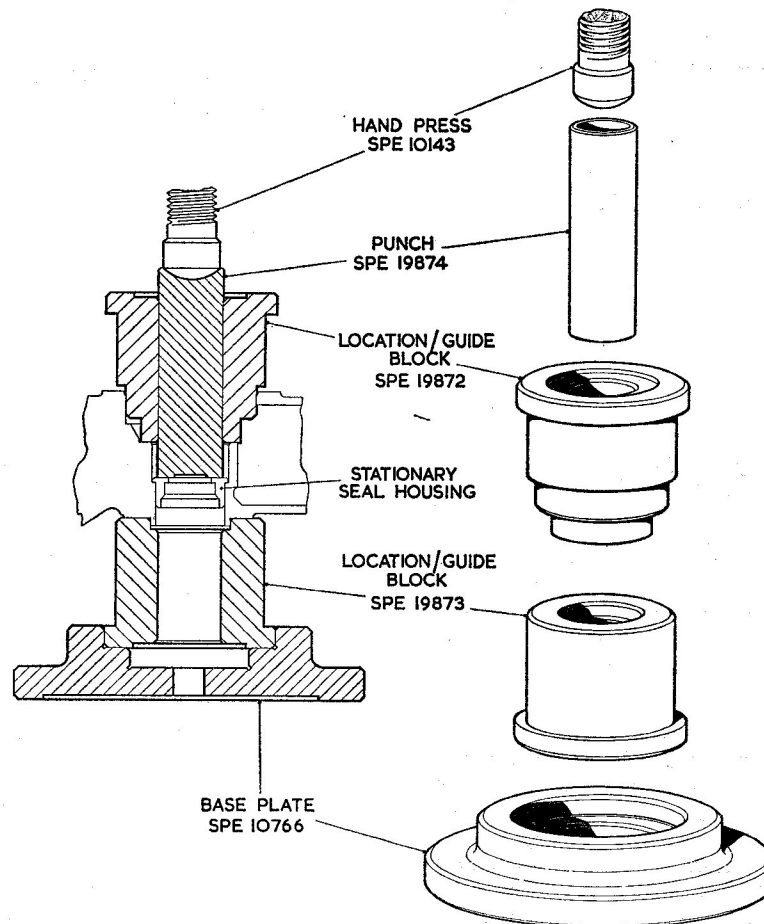

Fig. 16. Tools for assembling the stationary seal seat to the pump casting
(2) Smear the 1.062 in. dia. of the stationary seat (73) with 'Wellseal' jointing compound and press the seal into the casting using the tools illustrated in Fig. 16.